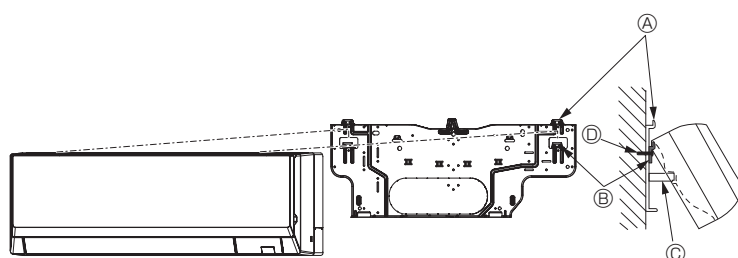

Fig. 3-13
- When the indoor unit cannot be hung and lifted up with the regular hook (the dimension of 2.1. Ⓢ (the clearance between the ceiling and the unit) is 75 mm or less), hang the unit on the lower hook for left piping. (Fig. 3-13)
#### (Fig. 3-13)